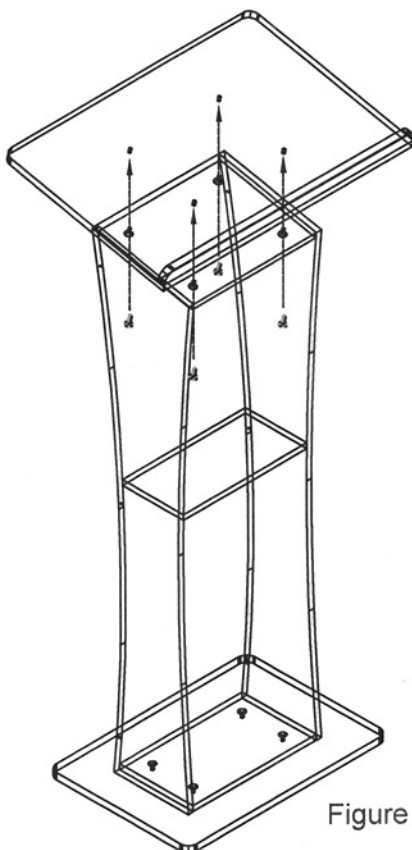

Figure 3
1. Position the Reading Top over the Body as illustrated in Figure 3.
3. Using the provided screwdriver, attach the Reading Top to the Body with (4) Flat Head Screws as illustrated in Figure 3.